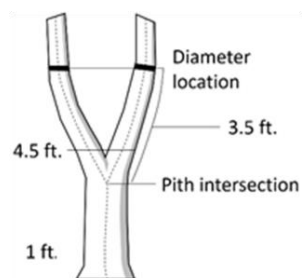
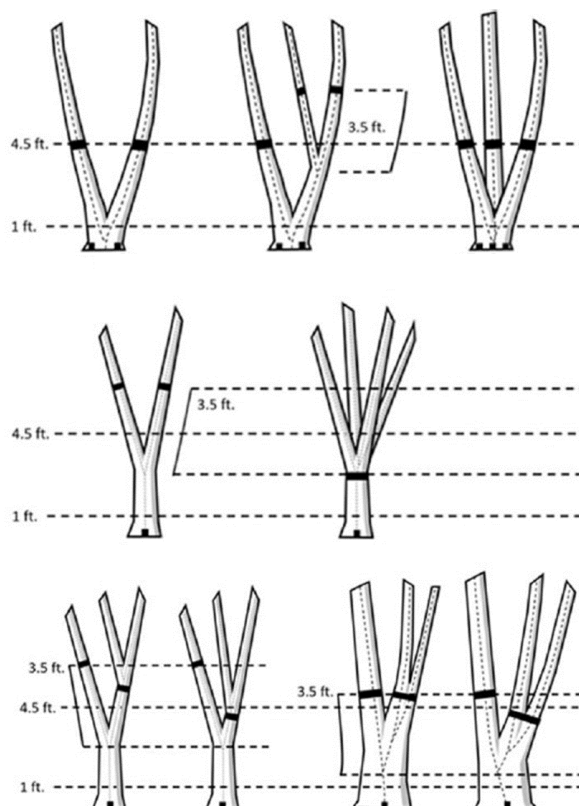

Figure 6. How to Measure Forked Trees (source: FIA)
Figure 7. Summary of Where to Measure Diameter on Forked Trees (source: FIA)
- If forked below 4.5' and above the one-foot stump as separate trees. From the pith intersection, measure up 3.5 feet and take DBH at that location. If forked at or above 4.5', measure as one tree. Estimates are only allowed if the tape cannot be passed between the stems of forks or if deformities exist. Individual trees can only fork once, ignore second fork. If a forked stem forks again before 3.5' up the fork, measure DBH below the second fork. See (Figure 6) and (Figure 7).